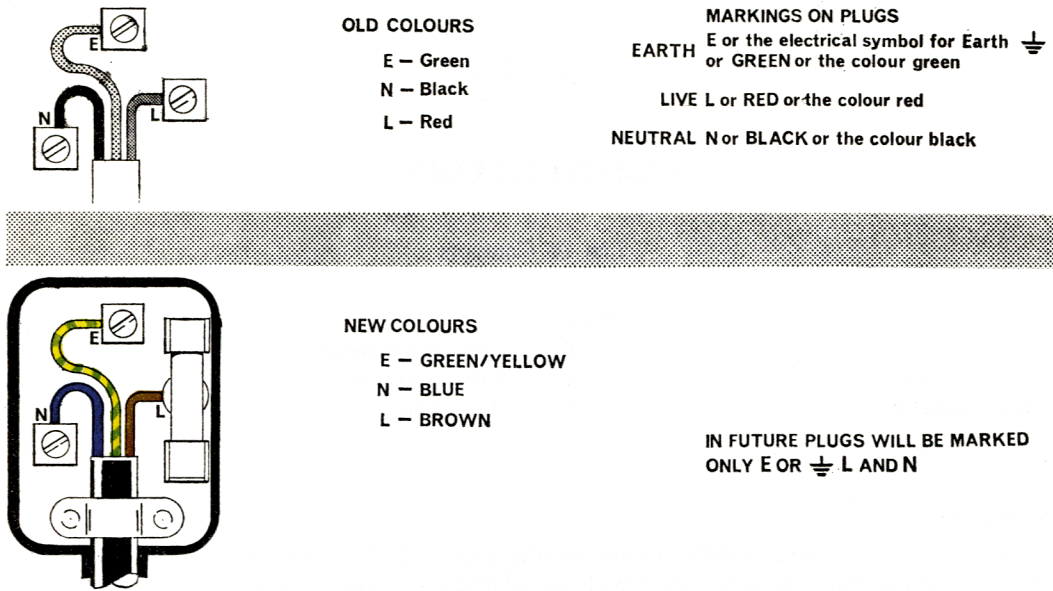

Fig. 1 How to fit a flex to a plug
4. Three cored cables are used for mains connectors. They have colour coded leads for ease of identification (see figure 1). This standard colour code is now coming into international use. The conductors are stranded for flexibility and their size is usually specified by the number of strands and their diameter; e.g. 23/·0076 means that each lead consists of twenty three strands, each of which is ·0076 inches in diameter. For service purposes, this size is rated at 4 amps (see AP1086) and it is the cable size used for general purposes *eg* test equipment leads. Other sizes are available at higher current ratings.
There are two types of insulation in common use. Trisheathground cable has a tough natural rubber sheath and is used where flexibility is very important *eg* on 'mobile' test equipment and on power tools. Other 'non-mobile' items are generally connected with PVC sheathed three cored cable. Modern plugs are of the thirteen amp flat-pin type shown in figure 1, but there are still a lot of the older round-pin five and fifteen amp plugs in use. The lead positions are the same in all cases.